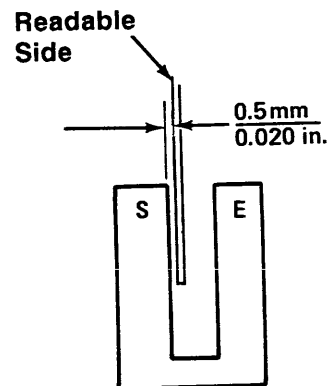

Figure 3-10.10B
3. Position the Encoder Disc for the Advance Motor Speed Sensor about 0.5mm (0.20 in.) from the "S" side of the sensor (Figure 3-10.10B) and about half-way from the bottom of the U-slot.